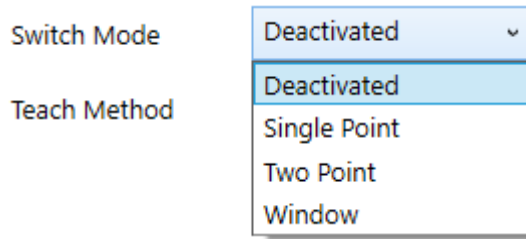

Figure 127. Switch Mode / Teach Mode
Select either of the following options from the “Switch Mode” or “Teach Mode” drop-down list to define how Setpoints (SP) are interpreted in the context of switching behavior (Figure 127):